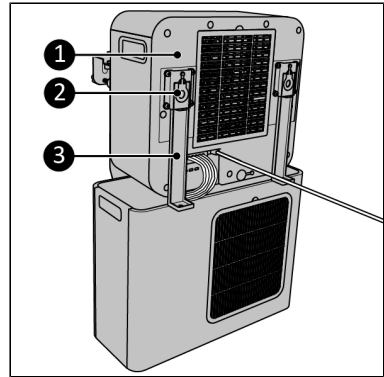

Figure 30.
6. Attach the top caravan brackets (Figure 30, pos. 3) to the indoor unit (Figure 30, pos. 3) to the indoor unit (Figure 30, pos. 1) by using the rubber hooks (Figure 30, pos. 2).